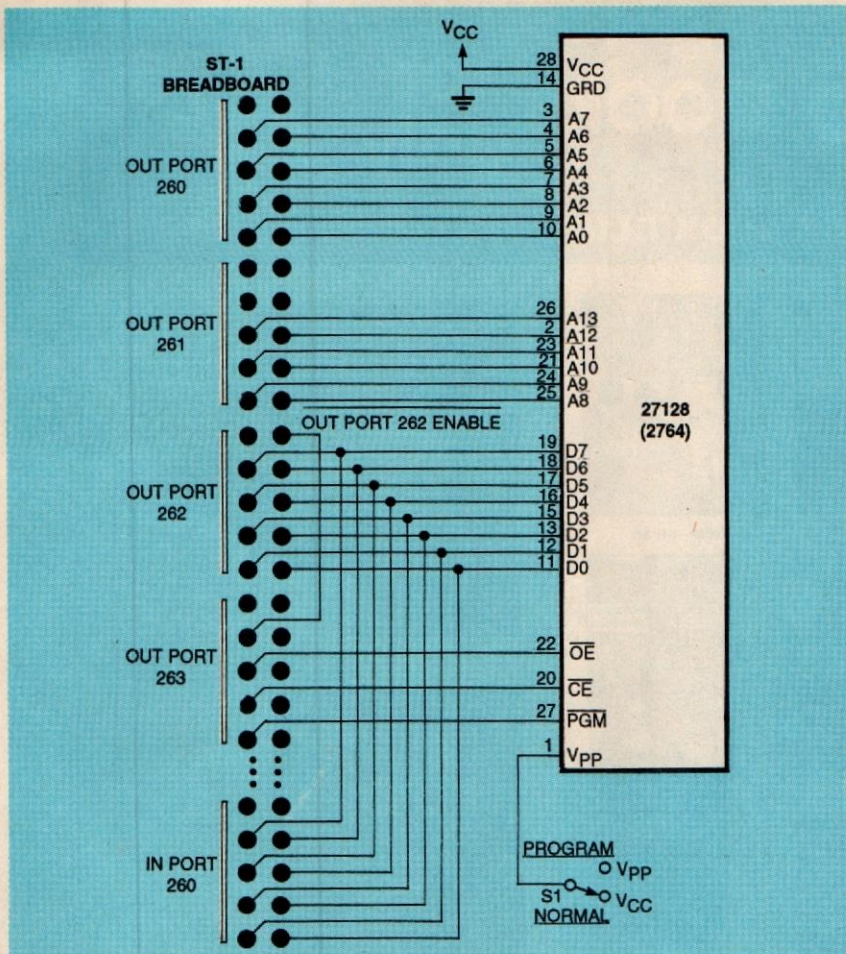

FIG. 1—27128 EPROM HOOKUP to the ST-1 breadboard appears here. The same hookup works for a 2764.
First set up the hardware. Figure 1 shows the hookup between the ST-1 breadboard and the 27128 28-pin EPROM. The port numbers shown in the figure and in the program listings represent the decimal values of the default base I/O port (260) provided by the breadboard. If the board is not set to the default address, substitute the values in all diagrams and software. (Part 1 of this series detailed base I/O port selection.)
scribed momentarily. For now, note that port 263 drives the EPROM's output enable (\overline{OE} , pin 22), chip enable (\overline{CE} , pin 20), and program pulse (\overline{PGM} , pin 27), as shown in Fig. 1. Port 263 also controls port 262's enable line. The odd-numbered bits of 263 are configured as follows: D1 (\overline{PGM}), D3 (\overline{CE}), D5 (\overline{OE}), and D7 ($\overline{PORT\ 262\ ENABLE}$). All four signals are active-low. Bits D0, D2, D4, and D6 are not used, so they can be set to any arbitrary value. You might want to make them the complements of D1, D3, D5, and D7. Then, if extra hardware is ever needed, both the active signals and their complements will be available.